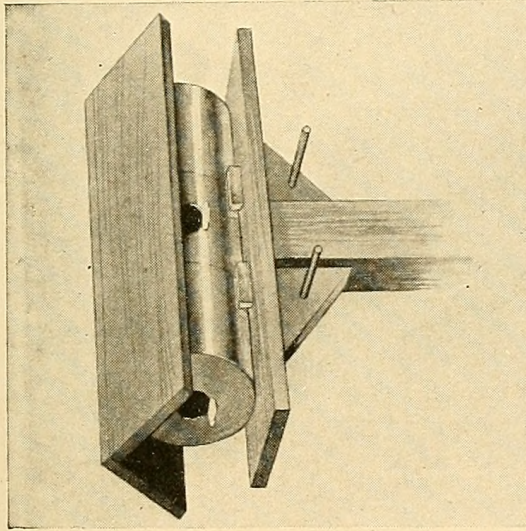

FIG. 485. A BIRD ARK.
**A Bird Ark.** For the bird ark shown in Fig. 485, three cans are joined together in the same manner as those of the towers are joined (Figs. 488 and 489). Both ends of the center can are removed, but the bottom is left on the end cans. Cut a  $1\frac{3}{4}$ -inch hole in the side of the center can and a hole of the same diameter through the bottom of each end can; do not remove the pieces of tin from the openings, but bend them out for perches as shown. Cut the roof boards of the proper size to project over the ends and sides of the cans, nail them together, and then fasten them in place by driving nails through the boards into the connecting blocks between the cans.